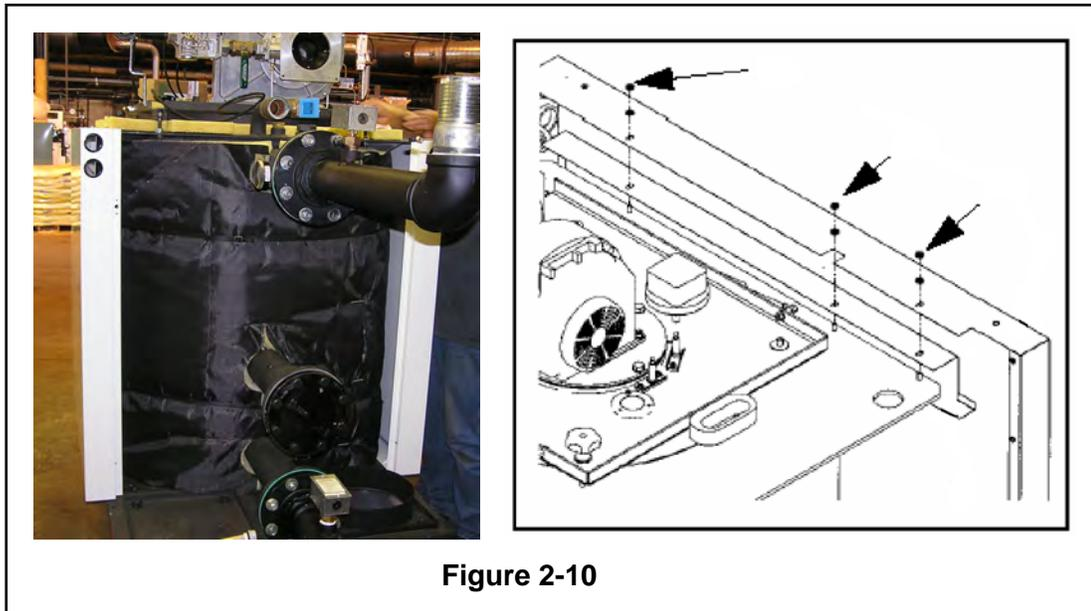

Figure 2-10
17. Attach large side panels to each side, fitting on top of the electrical supply channel. Fasten loosely, using nuts and washers previously removed. Do not over tighten. You will need these panels to move slightly to fit the other pieces. See **Figure 2-10**.